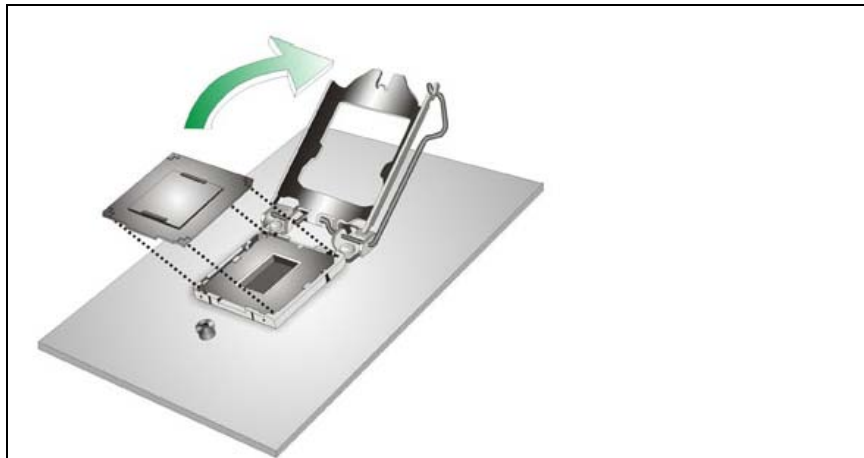

Figure 3-7: Remove Protective Cover
Step 5: **Open the socket and remove the protective cover.** The black protective cover can be removed by pulling up on the tab labeled "Remove". See **Figure 3-7**.